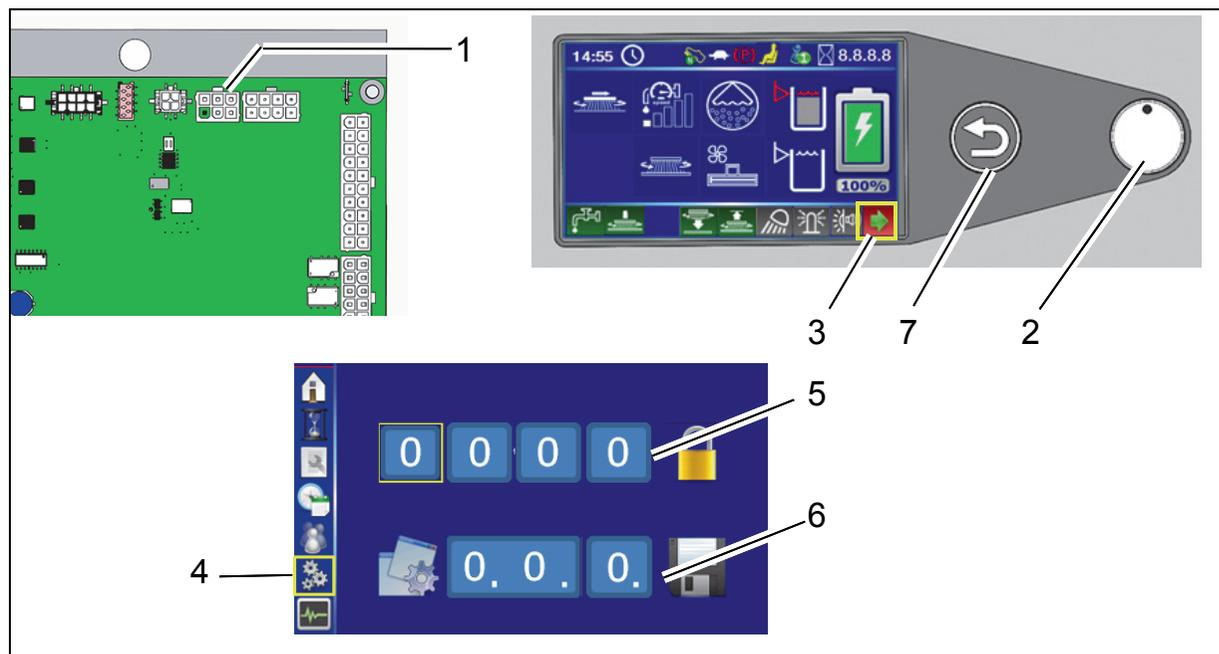

Fig. 4
Connect diagnosis plug to slot X20 of controller A1 (Fig. 4/1).
2. Select the arrow softkey (Fig. 4/3) on the control panel using the turn-push knob (DDS) (Fig. 4/2) and press to access the sub-menu.
3. Select the configuration menu in the sub-menu (Fig. 4/4).
4. Enter the 4-digit code in the configuration menu at the top (Fig. 4/5):
5. Select the value of the option under (Fig. 4/6) in the configuration menu and save by pressing the DDS. After confirmation of the final digit, **OK?** appears. Press the DDS again to save the value. The saved value is now displayed in green. If the value is not to be saved, exit the menu using the return button (Fig. 4/7).